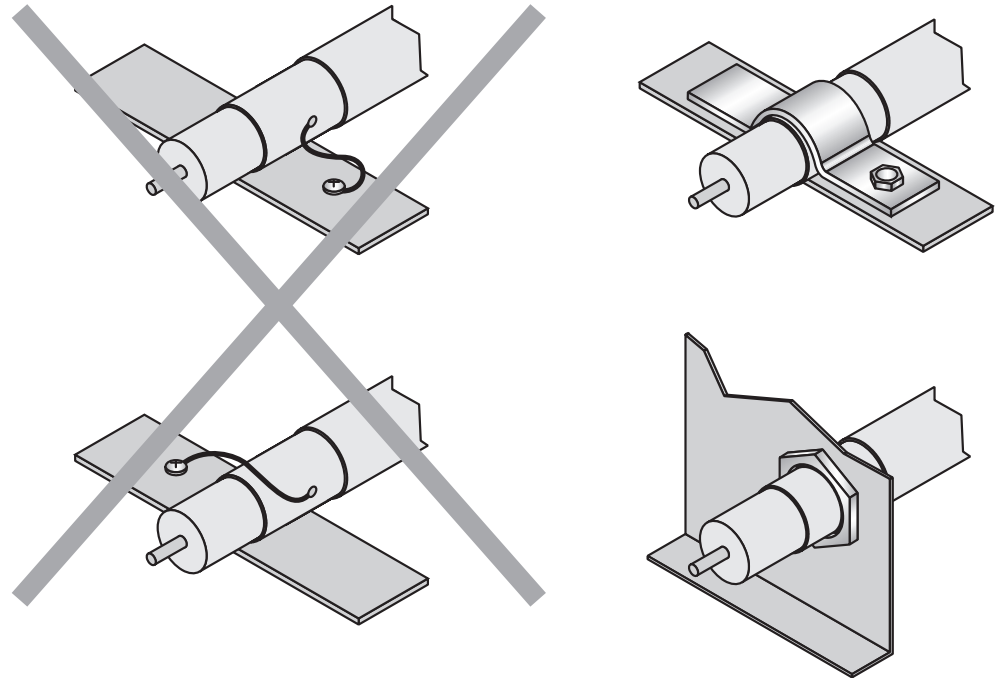

Figure 7: Make an extensive and low-impedance ground connection of the cable shield in the control cabinet.
- The cable shield in the control cabinet must be connected to a large area of the signal ground (see figure 7).